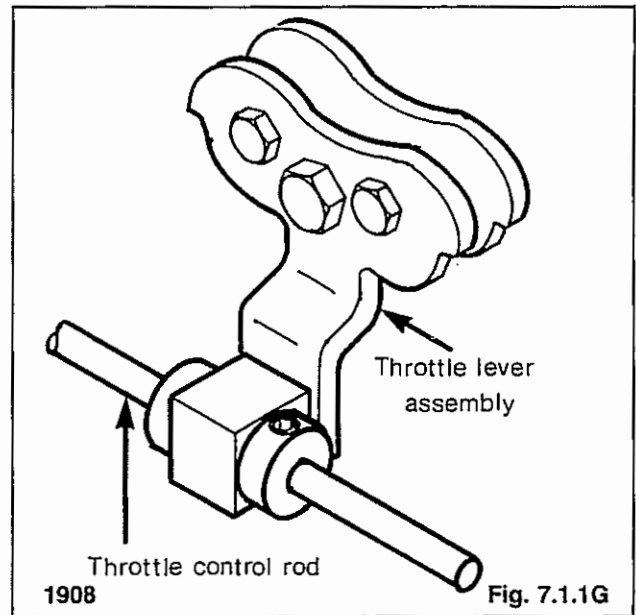

Fig. 7.1.1G
14. Disconnect the throttle control rod from the throttle lever assembly on the fuel injection pump (Fig. 7.1.1G).